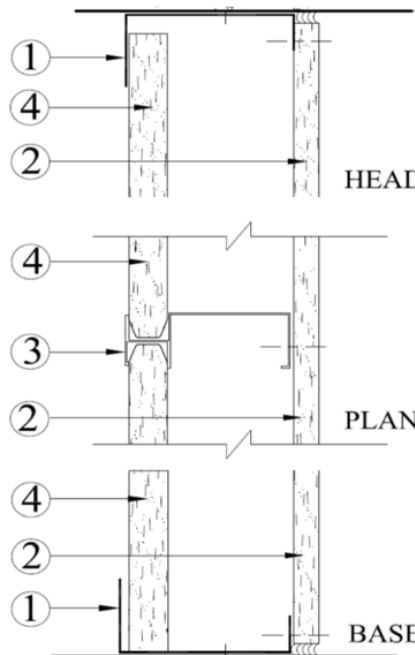

Figure 1 - One Hour Cavity Shaft Wall (Non-Load Bearing)
Sheetrock® Brand Firecode® C Panels- UL Type C have been tested to generate the shaft/stairwell limiting heights for wall assemblies shown in Figures 1, 2, 3, 4, and 5. Panels are available in 1/2-in and 5/8-in thicknesses, 48-in wide and lengths up to 14-ft. Product must be ULULC Classified for fire-rated construction (Type C) and must meet the requirements of ASTM C1396.
One-Hour Cavity Shaft Wall (Non-Load Bearing). See Figure 1
1. See Figure 1 for vertical stud installation details within shaft/stair wall.